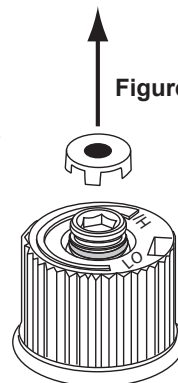

Figure 70
3. Remove the black protection cap by hand. (Fig. 70)